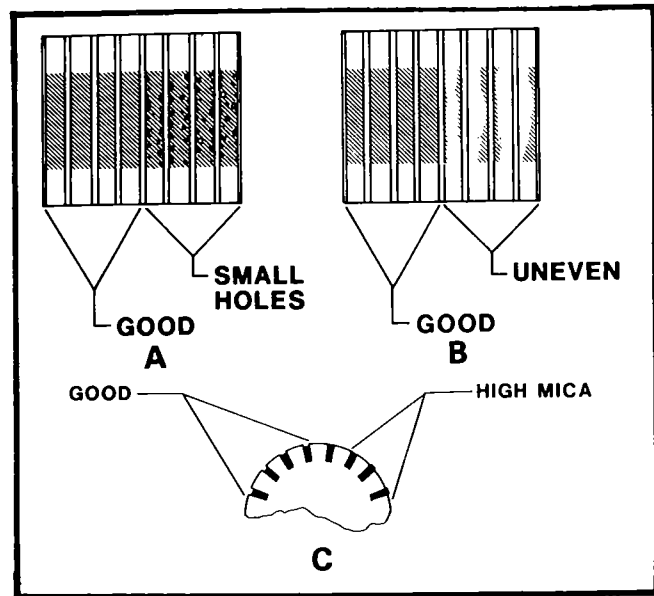

Figure 10
5. Replace all eight carbon brushes if any carbon brush is shorter than $7/16$ inch. See figure 10. If the carbon brushes are shorter than $9/16$ inch, get new carbon brushes. Be ready to replace the carbon brushes earlier than the normal inspection time.